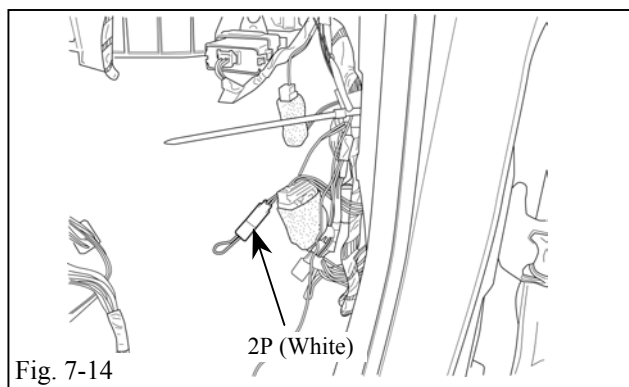

Fig. 7-14
- (o) Locate the white 2P connector on the V4 wire harness in the passenger cowl side area. (Fig. 7-14)